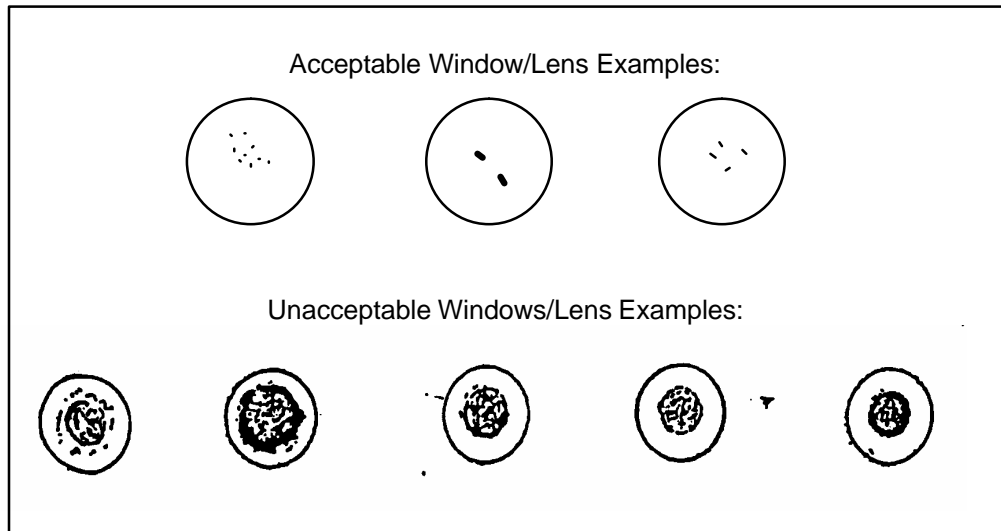

Figure 6.8: Window and Lens Acceptability Chart
- b. Re-inspect the window and compare to the Window and Lens Acceptability Chart (Figure 6.8). If unacceptable, discard window and replace with a new one.
- b. Re-inspect the window and compare to the Window and Lens Acceptability Chart (Figure 6.8). If unacceptable, discard the window and replace with a new one.
- b. Re-inspect the lens and compare to the Window and Lens Acceptability Chart (Figure 6.8). If unacceptable, discard the lens and replace with a new one.